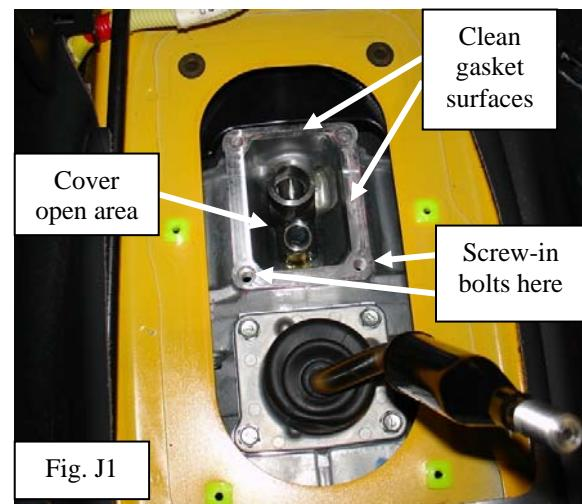

Fig. J1
1. Screw two shift lever retainer bolts removed in Step I2 into two rear holes as shown. (Fig. J1)
2. Clean shift lever retainer gasket surface and transmission gasket surface. A gasket scraper may be used. (Fig. J1)